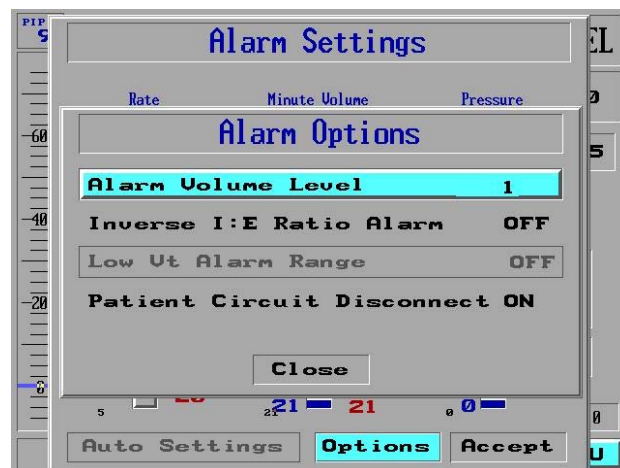

Figure 142: The Alarm Options Screen
3. The **Alarm Options** screen appears (Figure 142).